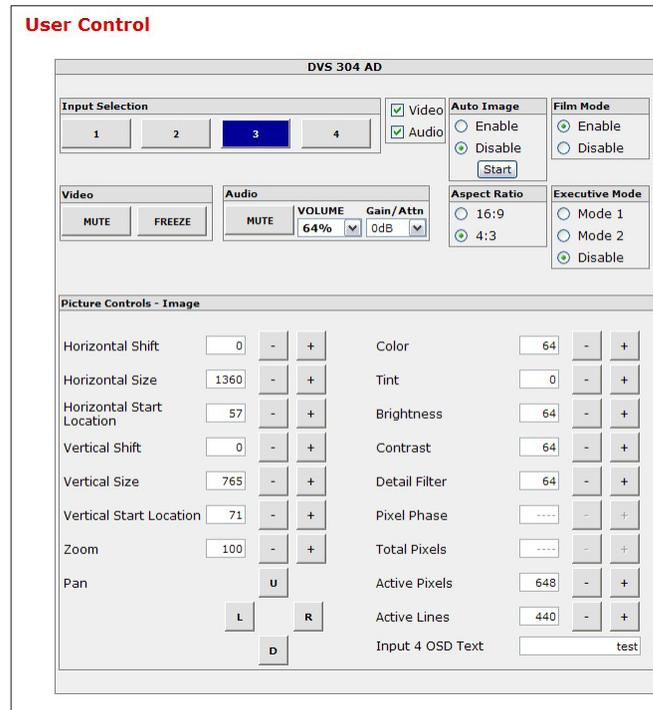

Figure 46. User Control Page
1. Click the **User Control** link on the left side of the page. The User Control page appears (figure 46).
3. Click the **User Control** link on the left side of the page. The User Control page appears (figure 46).